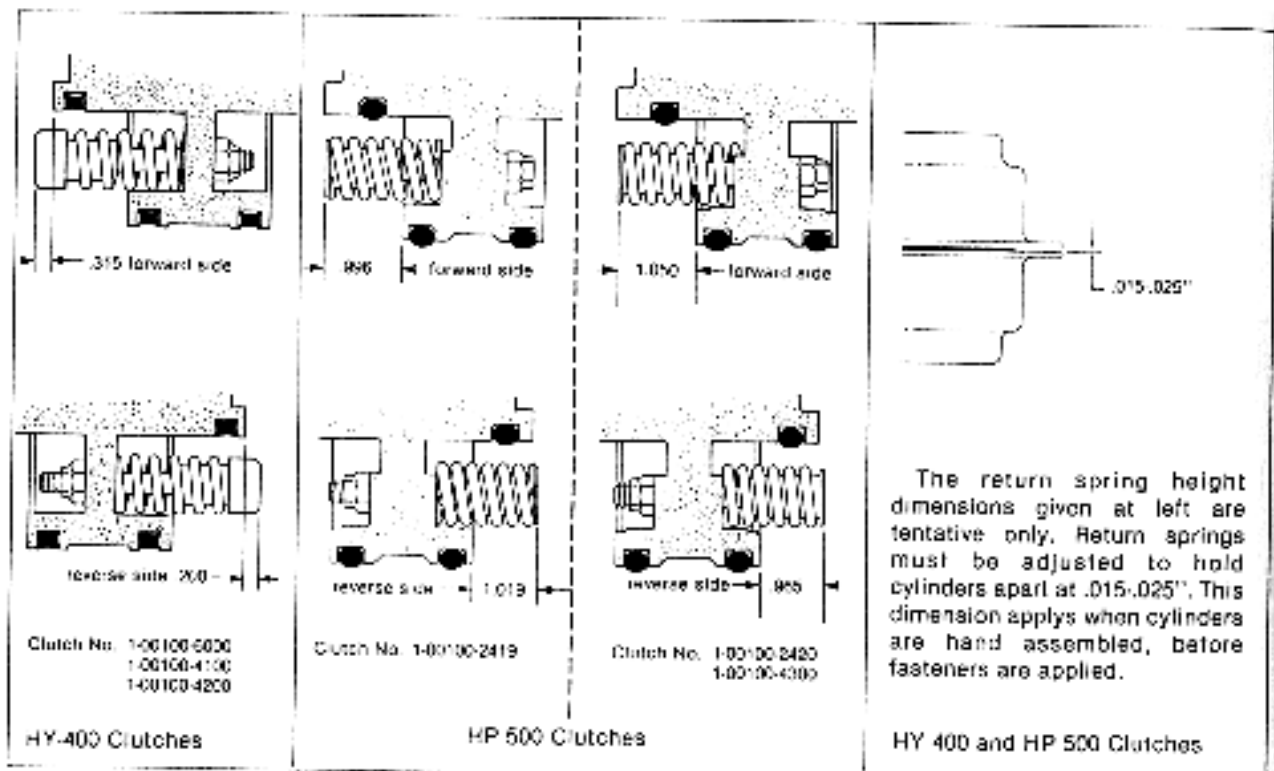

Fig. 24. Clutch Return Spring Height Adjustment
4. Replacement of return springs and retainers (if necessary): insert return spring retainers into return springs and secure in gear carrier using capscrews. Tighten capscrews tentatively until top of spring retainer protrudes the specified distance from the face of the bevel gear carrier hub as shown in figure 24.